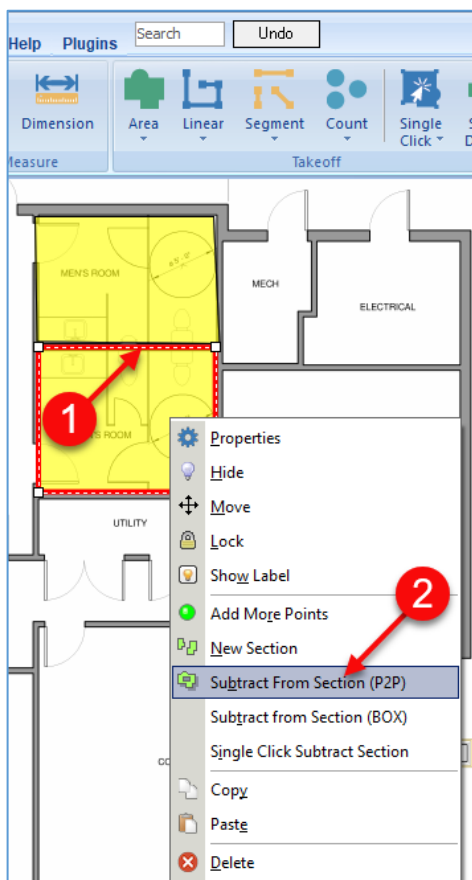

Figure 15-A
3. Perform a takeoff around the area to be subtracted from that section (Fig. 15-B).